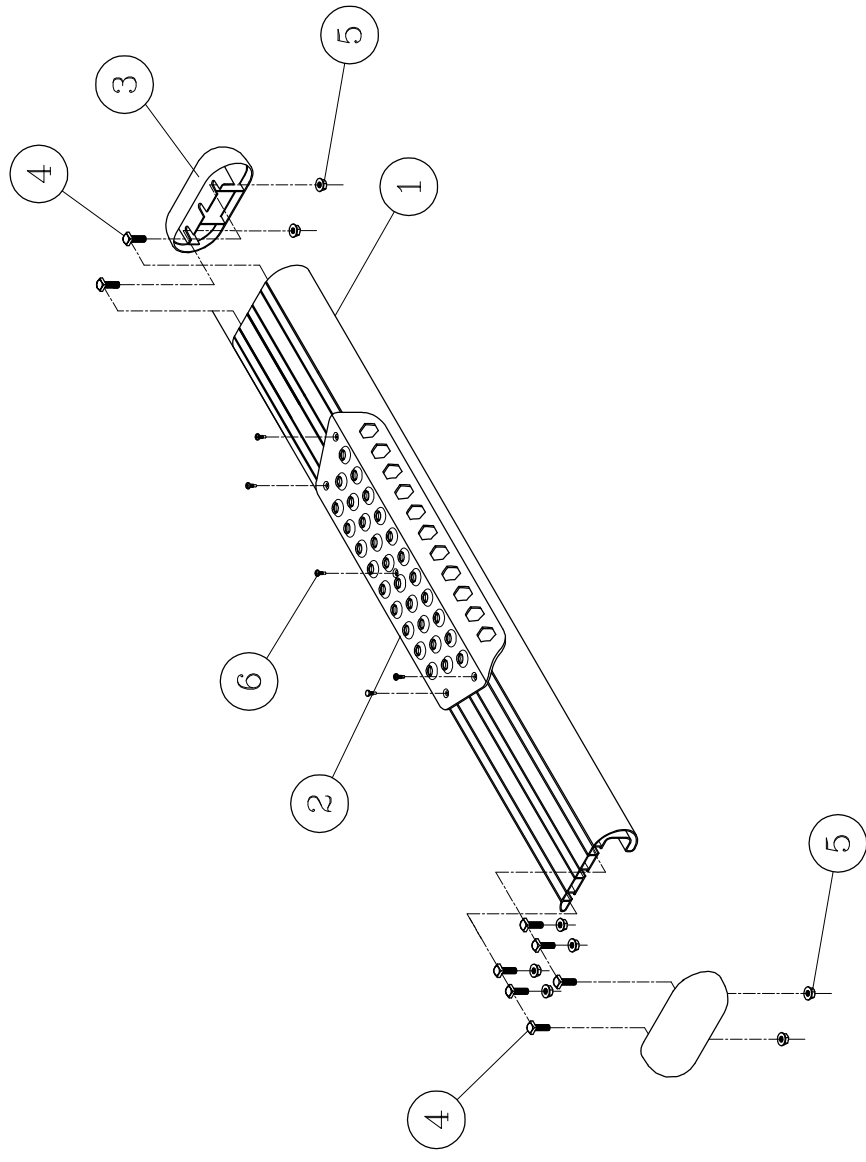

fig.1
3. BEFORE ATTACHING THE O-MEGA STEPS TO THE BRACKETS, PLACE THE STEP PADS (ITEM #2) ON TOP OF THE STEP PLATES ACCORDINGLY FOR YOUR VEHICLE. USING THE HOLES IN THE STEP PAD AS A GUIDE DRILL (5) 1/8" PILOT HOLES. ATTACH WITH (5) 8-18X1/2" TEK SCREWS (ITEM #6) PROVIDED. REPEAT FOR ALL STEP PADS.
5. INSTALL THE END CAPS (ITEM #3) AS SHOWN IN (FIG.1), TIGHTENING THE SERRATED NUTS (ITEM#5) TO 5 LB FT.
- 2.3 IF THE TRUCK DOES HAVE REAR A/C YOU WILL NOT NEED TO REMOVE THE BODY PLUG INSTEAD PLACE THE PREASSEMBLED BRACKET INTO PLACE AND MARK THE HOLE LOCATION USING THE CENTER ROUND HOLE IN THE BRACKET AS A GUIDE. (MAKE SURE THAT THE BRACKET IS LEVEL WITH THE TRUCK) REMOVE THE BRACKET AND CENTER PUNCH THE MARKED HOLE AND DRILL WITH A 7/32 DRILL. PLACE BRACKET BACK IN PLACE AND INSTALL THE 1/4" SELF-TAPPING SCREW (ITEM #4). SEE FIG 1.